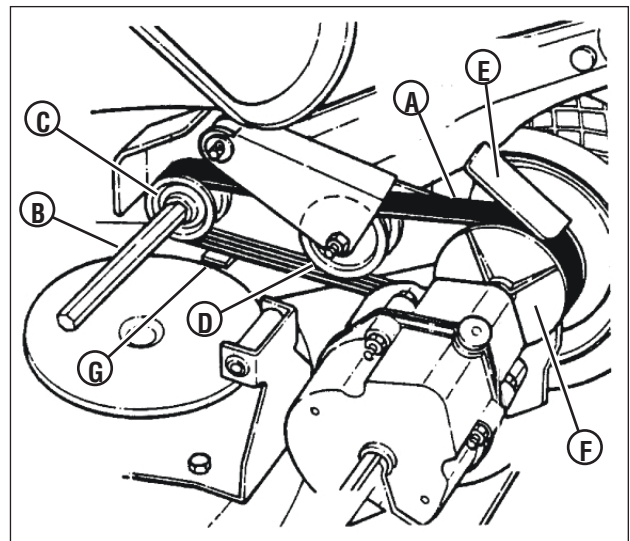

Figure 33: Poly-v belt routing
3. Place the new Poly-V Belt (**A**, **Figure 33**) over the end of the hex shaft (**B**) and onto the drive pulley (**C**).